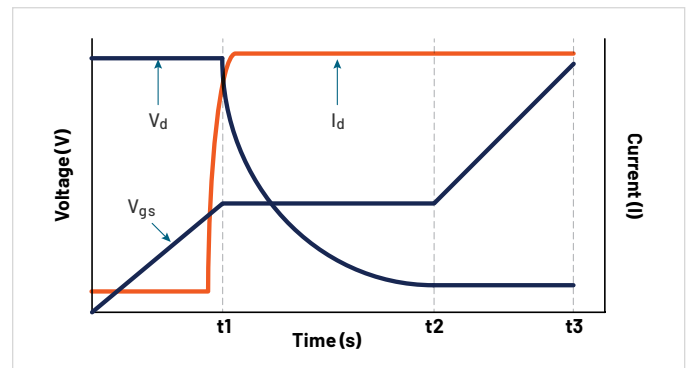

Figure 2.  $V_{gs}$ ,  $V_d$ , and  $I_d$  vs. time of MOSFET.
**Figure 2** shows typical gate and drain waveforms as a function of time. As current is forced to the gate,  $V_{gs}$  increases until it reaches the threshold voltage. At this point, the drain current ( $I_d$ ) begins to flow. When  $C_{gs}$  is charged up at time  $t_1$ ,  $I_d$  stays constant and the drain voltage ( $V_d$ ) decreases.  $V_{gs}$  remains constant until it reaches the end of the plateau. Once  $C_{gd}$  is charged at time  $t_2$ , the gate-source voltage ( $V_{gs}$ ) starts to increase again until it reaches the specified maximum gate voltage ( $V_{gsMax}$ ).